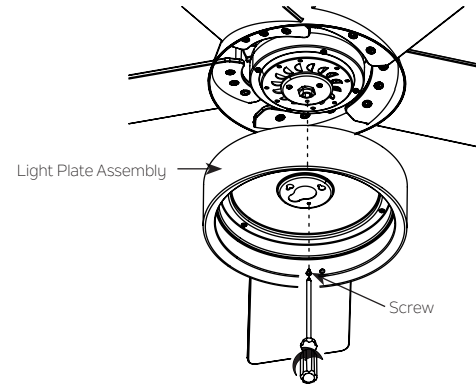

Fig. 20
Step 2. Place the two slot holes on the light plate assembly over the 2 screws previously loosened from the mounting plate. Rotate the light plate assembly until it locks in place at the narrow end of the key holes, secure by tightening the 2 screws previously loosened and the one previously removed. (Fig. 20)